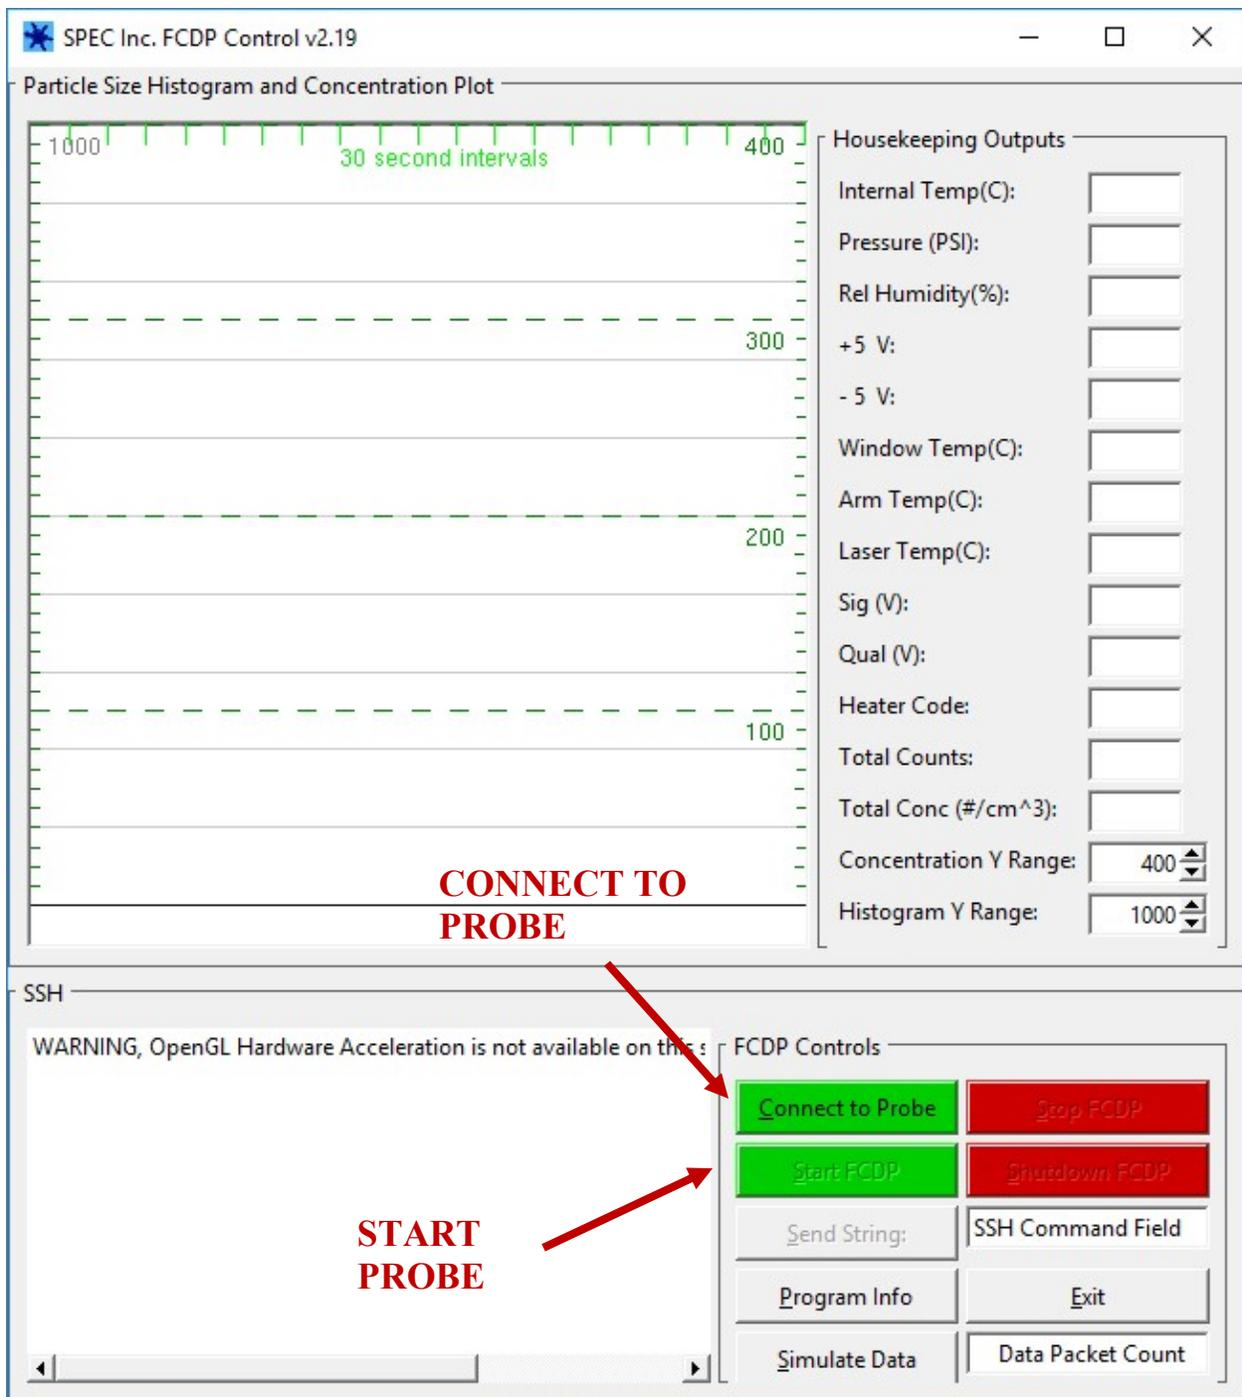

Figure 3.2.1. Startup screen for the FCDP GUI.
Once installed, the GUI uses an ini file (C:\SPEC\Scattering_Probe_GUI\config\scatprobe.ini) to define the IP address and other critical parameters required to interface with the FCDP. These parameters default to the standard settings, but should be verified. A screenshot of the GUI is shown in **Figure 3.2.1**. The steps to start and stop the FCDP through the GUI are detailed below.
1. To initialize the connection between the FCDP GUI and the probe, click the green “Connect to Probe” button shown in **Figure 3.2.1**. This will connect and time sync the probe.
1. To disconnect from the FCDP, click the “Stop FCDP” button (see **Figure 3.2.1**).